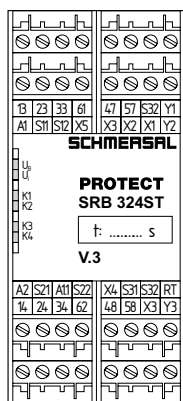

Fig. 1
5.2 Description of the terminals (see Fig. 1)